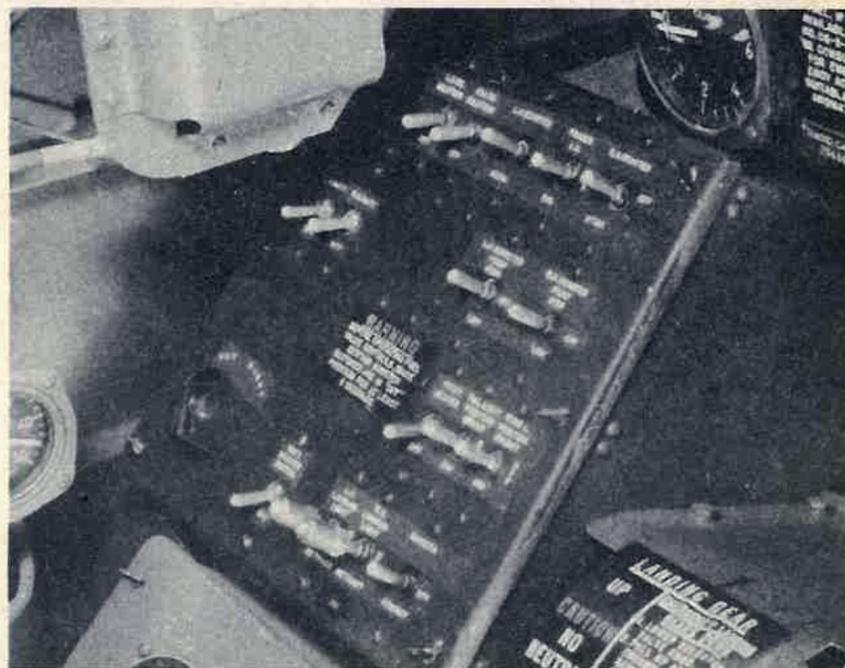

Figure 16 - Pilot's Electrical Switch Panel
(3) Fuel booster pump switches are located on the pilot's switch panel. (Fig. 16.)